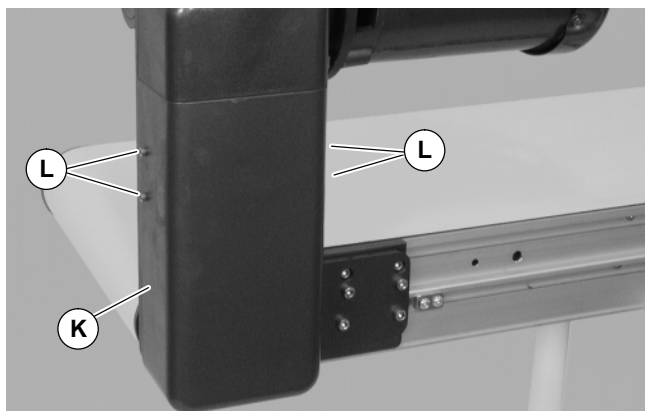

Figure 10
- Install cover (K of Figure 10) with four (4) screws (L). Tighten screws to 35 in-lb (4 Nm).
1. Remove four (4) screws (L of Figure 10) and remove cover (K).
4. Install cover (K of Figure 10) with four (4) screws (L). Tighten screws to 35 in-lb (4 Nm).
6. Install cover (K of Figure 10) with four (4) screws (L). Tighten screws to 35 in-lb (4 Nm).